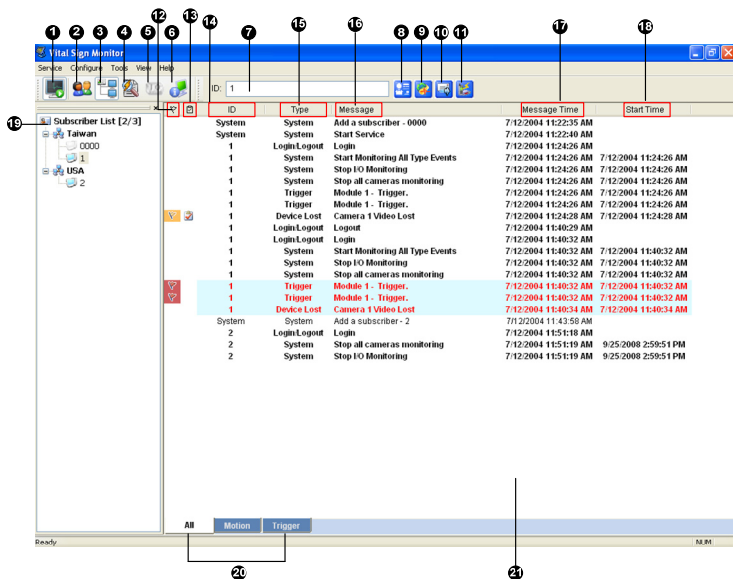

Figure 3-1
1. On the VSM widow, click the **Account** button (No. 2, Figure 3-1) to display the Address Book window.
After subscriber accounts are created, the VSM is ready to provide services. Clicking the **Start/Stop Service** button (No. 1, Figure 3-1) on the VSM window to receive signals from subscribers.